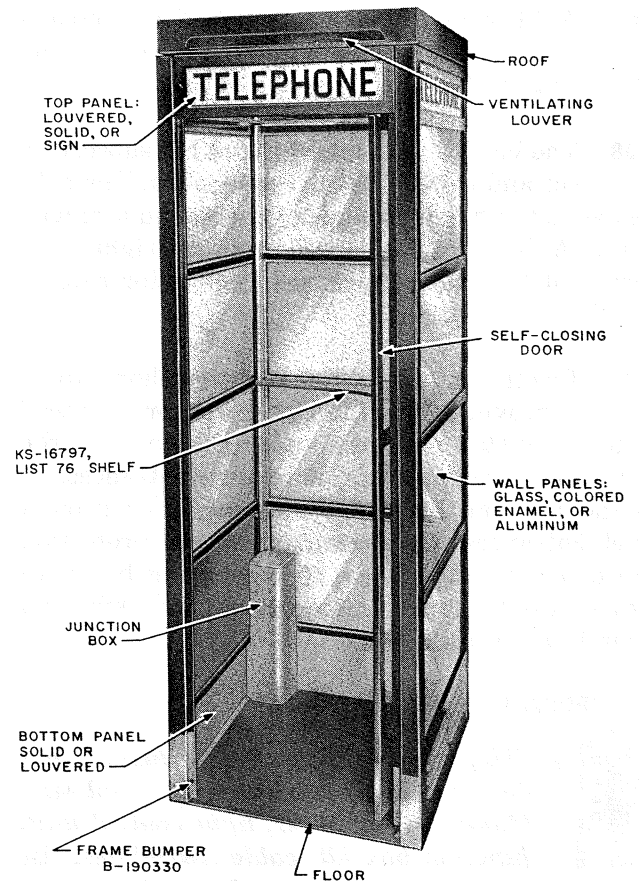

Fig. 1 — KS-16797, List 1 Booth
1.02 The KS-16797 booth (Fig. 1) is a compact aluminum and glass telephone booth suitable for indoor and outdoor use in single or multiple installations.